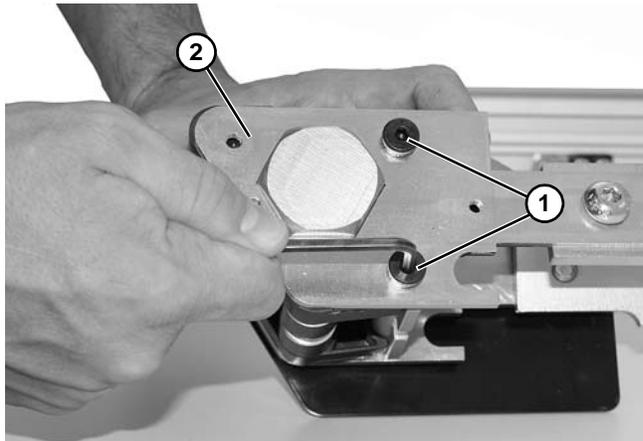

Figure 92
5. Remove shoulder screws (Figure 92, item 1) to remove backing plate (Figure 92, item 2).